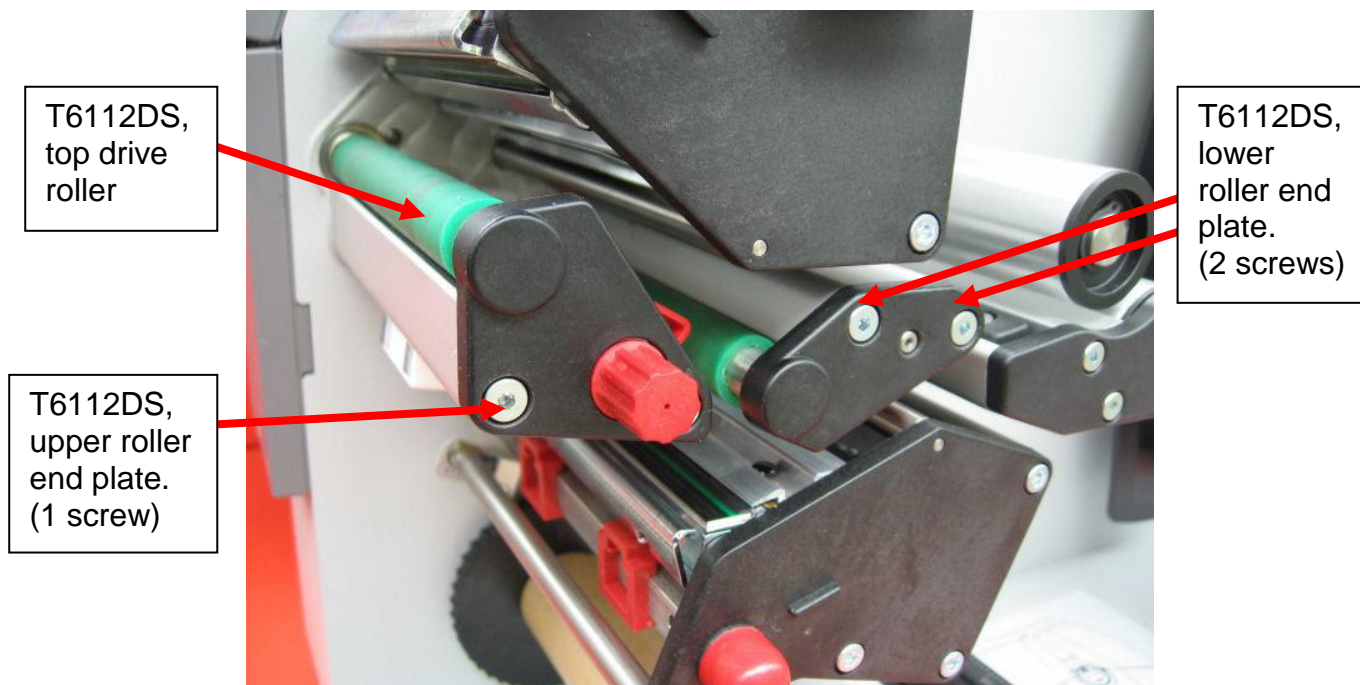

Figure 4 – End plate and screws for T6112DS printer
- 3.2. Dependant on the roller to be changed, using the Allen key provided with the printer, remove the screws holding the end plates as shown in Figure 4.